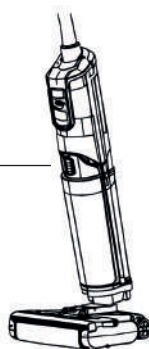

Fig. 9
2. Press the tank firmly until you hear a distinct click from the tank release latch, indicating that the tank has been properly installed (see Fig. 9).